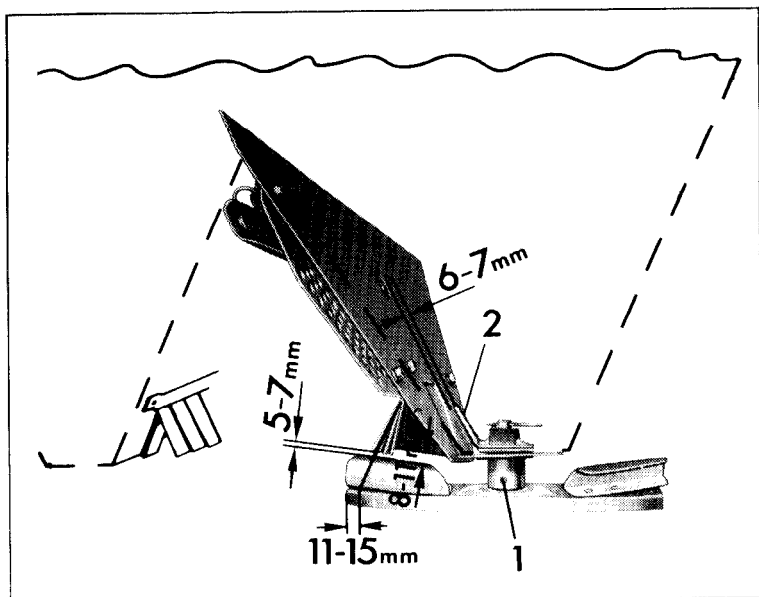
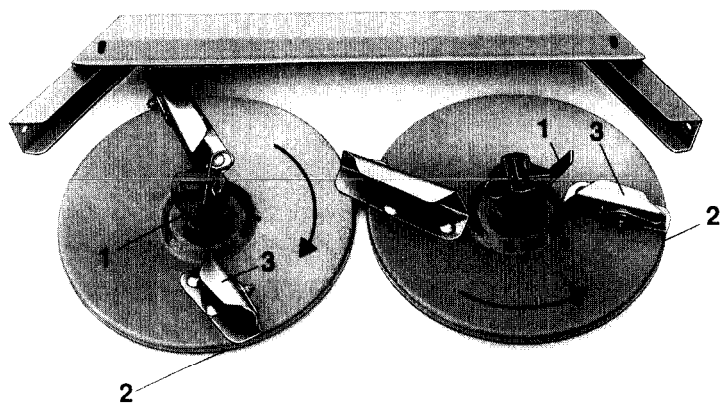

Fig. 18
Fig. 19
- 4.2 At **weekly** intervals check the distance between the hopper and stirrer finger (6 - 7mm, Fig. 18). If this distance is incorrect readjust the stirrer finger. Worn stirrer heads should be replaced.
Extract the roll pins (Fig. 18/1) from below the hopper just above the spreading disc. Pull off the stirrer bases and mark these left and right for replacement purposes later. If no extractor is available, make a groove with a hammer and chisel on both sides of the stirrer base near the pin holes, thus widening the stirrer base bushes. Then insert a chisel or screw-driver between the stirrer base and disc, and lever up. Under no circumstances heat or use any kind of open flame to remove the stirrer base, as this could result in the warping of the spinner discs. When replacing the stirrer heads, ensure that the hardened surface (Fig. 19/1) of the stirrer fingers point in the direction of travel (Fig. 19).
*The stirrer fingers must also point towards the holes (Fig. 19/2) in the rims of the spinner discs.* The stirrer finger (Fig. 18/2) must have a clearance of 6 - 7 mm (1/4" - 9/32"). The stirrer must not grind on the hopper base, although this gap should not exceed 0.5 mm at any point. The stirrer heads should be resecured with double roll pins.
Check the measurements of the blades and deflector plates, etc. (see Fig. 18).
When fitting the spinner vanes please note that the short vane (Fig. 19/3) is mounted above the hole (Fig. 19/2) in the rim of the spinner disc.